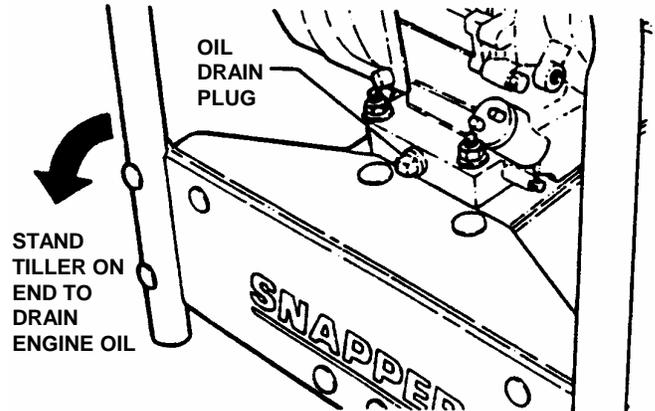

FIGURE 8
**3.2.1 ENGINE SERVICE:** Refer to the engine owner's manual for details. Engine oil is drained by removing front filler plug and standing Tiller on end. See Figure 8.